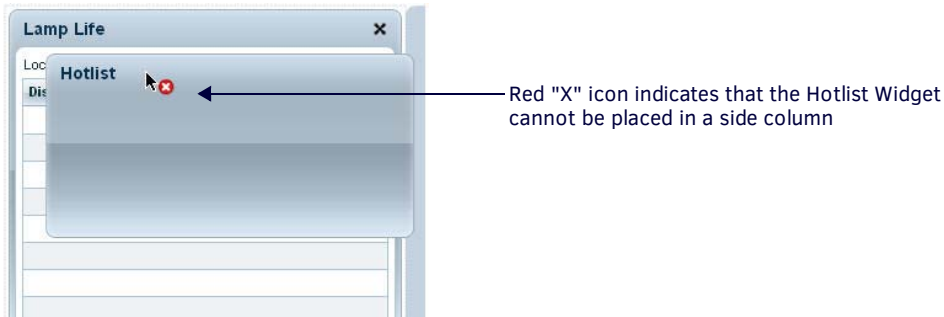

FIG. 82 Widget Placement not Allowed
Note that while dragging a widget, if the mouse cursor displays a small red "X" icon, then that widget is not eligible to be dropped into that target dashboard column. For example, the Hotlist widget is intended to be placed in the center column, since the side columns are too small to accommodate the data displayed in the Hotlist. If you attempt to place the Hotlist widget in a side column, the red "X" icon indicates that this placement is not allowed (FIG. 82):
- Note that while dragging a widget, if the mouse cursor displays a small red "X" icon, then that widget is not eligible to be dropped to that target dashboard column (see FIG. 82 on page 61).